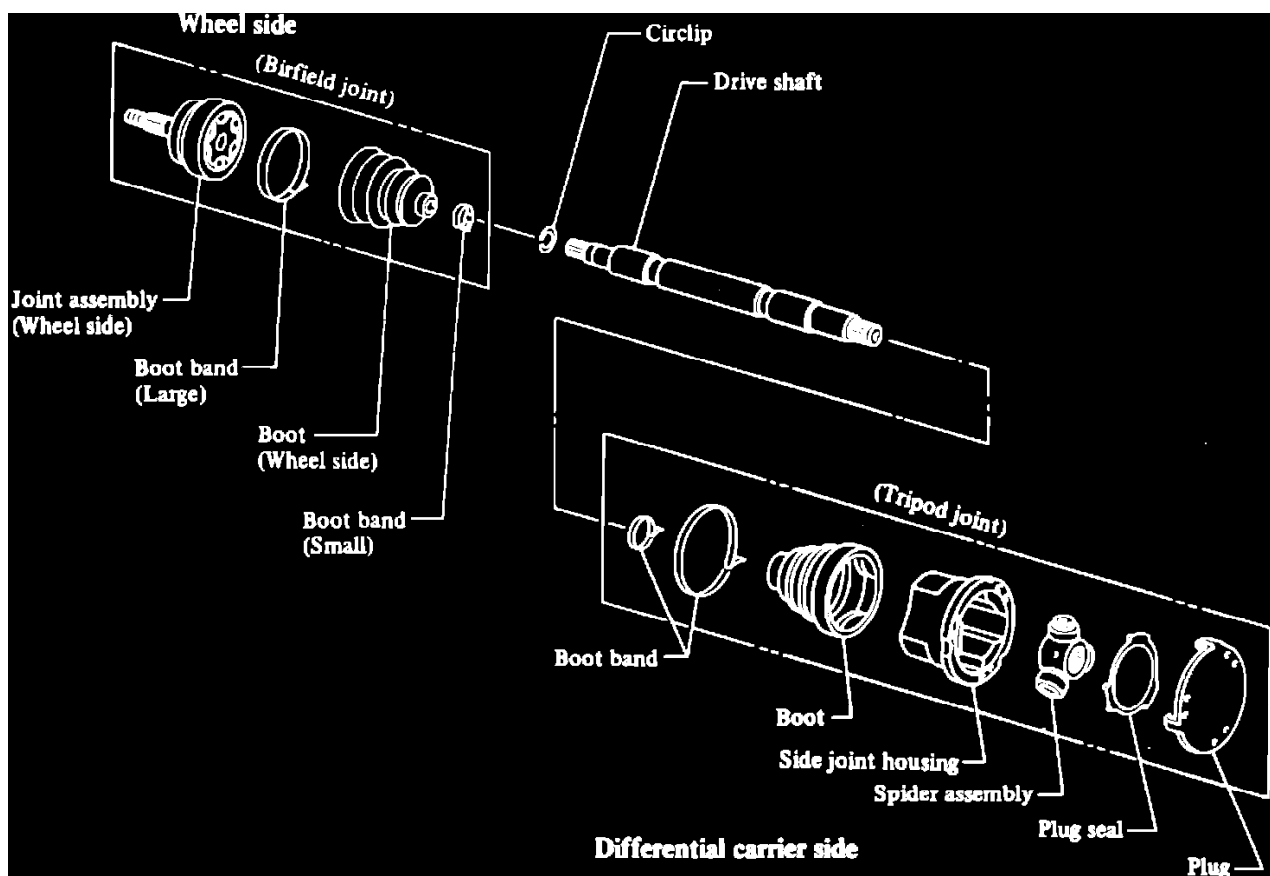

Fig. 6 Driveshaft exploded view. Pathfinder & 4WD Pickup
2. Remove plug, then the plug seal, **Fig. 6**.
- c. Remove joint assembly and boot from driveshaft, **Fig. 6**.